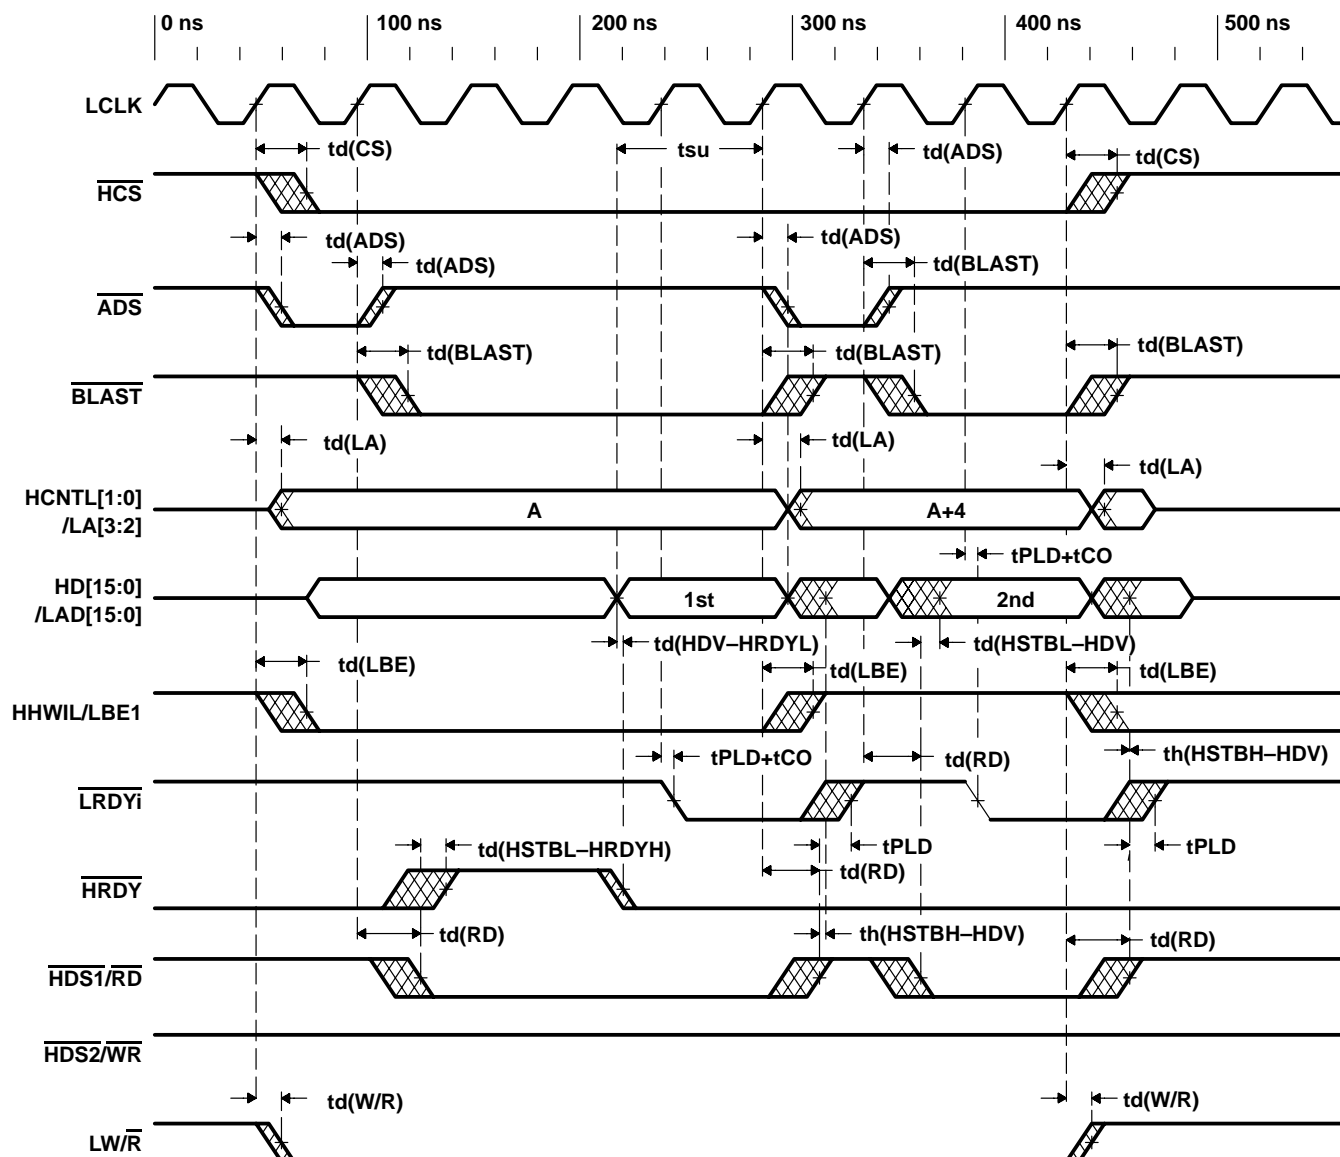
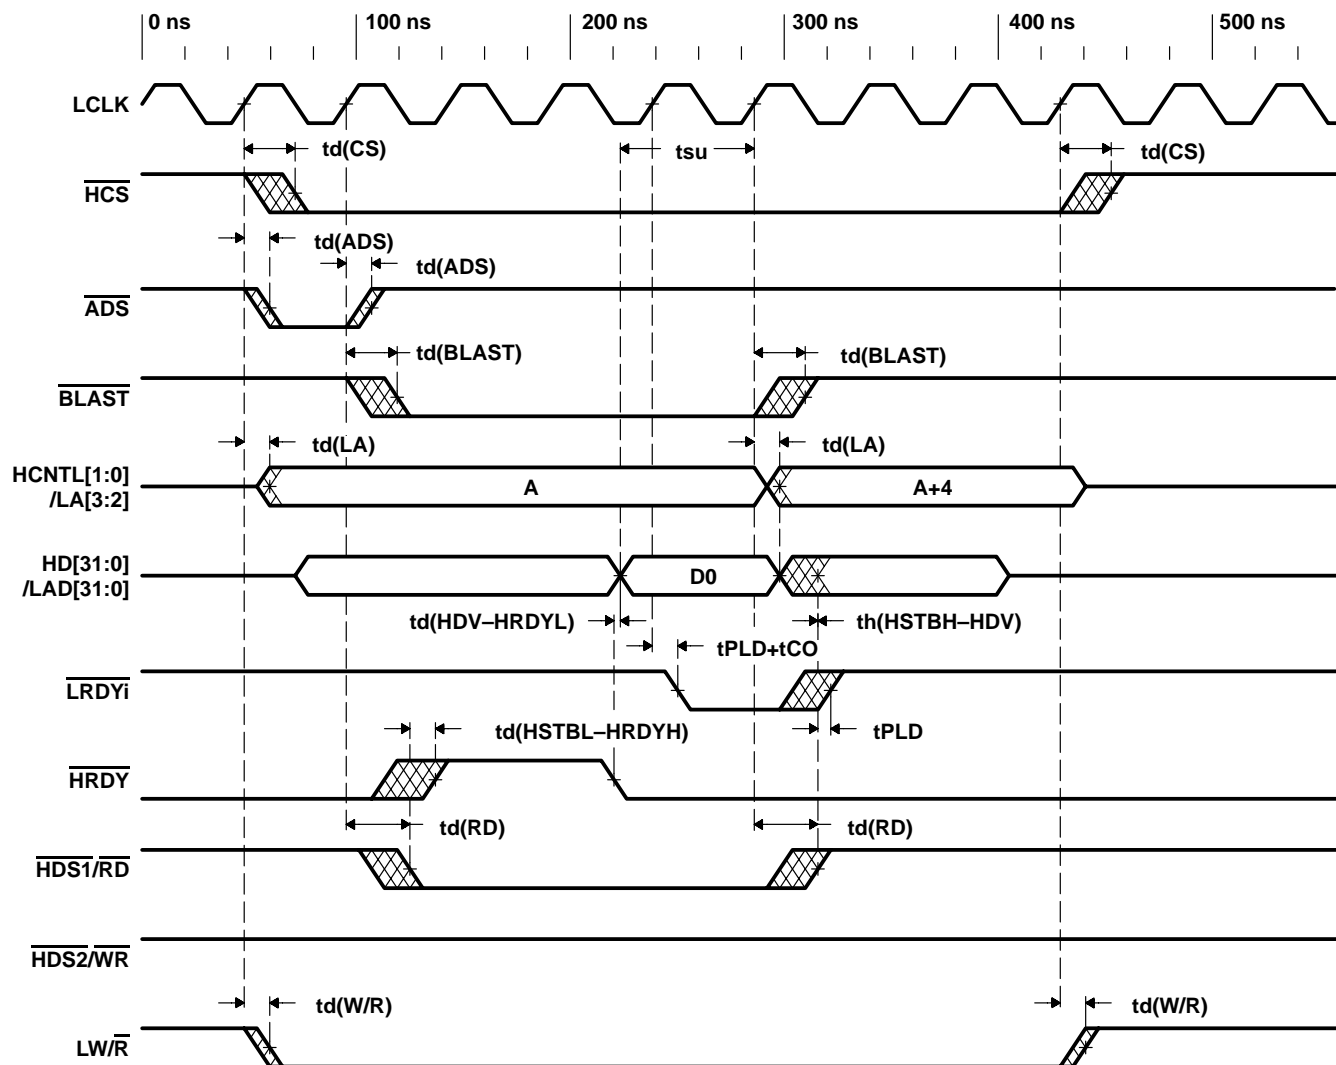

Figure 4. PCI9030 Read From TMS320C6000 DSP Internal Memory Using the HPI (16-Bit)
Figure 5. PCI9030 Read From TMS320C64x DSP Internal Memory Using the HPI (32-Bit)
2. a PCI9030 read from the HPI (Table 3, Figure 4, and Figure 5)